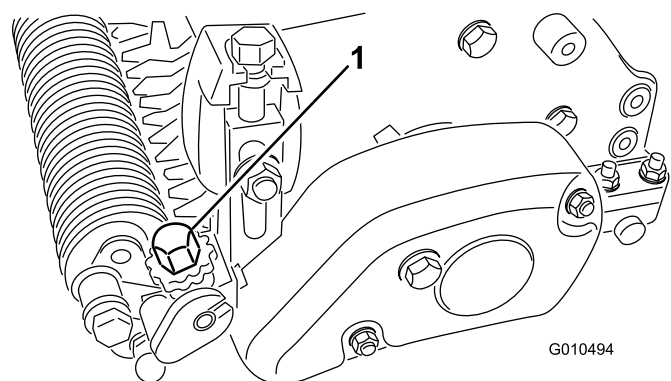

Figure 25
6. Turn the groomer-height-adjusting knob to raise or lower the blade tip to the desired grooming height (Figure 25).